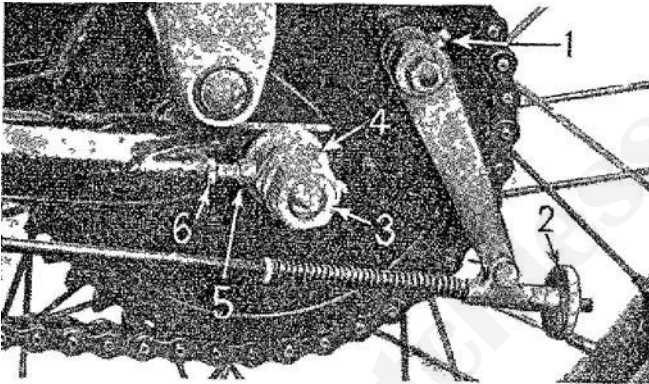

FIG. 69. REAR BRAKE ADJUSTMENT (1945-55) AND SECONDARY CHAIN ADJUSTMENT (1955-7) ON SPRING-FRAME MODELS
On 1945-54 models the adjuster bolt (4) on the heel of the pedal is located almost vertically. Note the detachable dorned clutch-cover fitted to 1954 and later models. See Fig. 69 for brake adjustment.
To make a minor rear-brake adjustment, jack the A.J.S. up on its rear or centre stand. Then on 1945-55 models to eliminate "lost motion," screw the hand adjuster (2) at the rear of the brake rod (see Fig. 69) farther on to the rod until slight friction is felt between the brake linings and the brake drum when the rear wheel is spun
On 1955 and later models an adjuster screw and lock-nut (see Fig. 69) are provided on the front side of each rear fork-end. To make a secondary chain adjustment (with the machine on its centre stand), loosen the spindle-end nut (3) on the near side; slacken the adjacent lock-nut (4) for the brake cover-plate. Now loosen the lock-nut (6), on each side of the hub, and screw out the chain adjuster- screw (5) as required to tighten the chain correctly. Note that it is essential to unscrew both chain adjuster-screws the same amount, and before tightening the lock-nuts and spindle-end nut it is desirable to check the alignment of the wheels (see page 108).
KEY TO FIG. 69